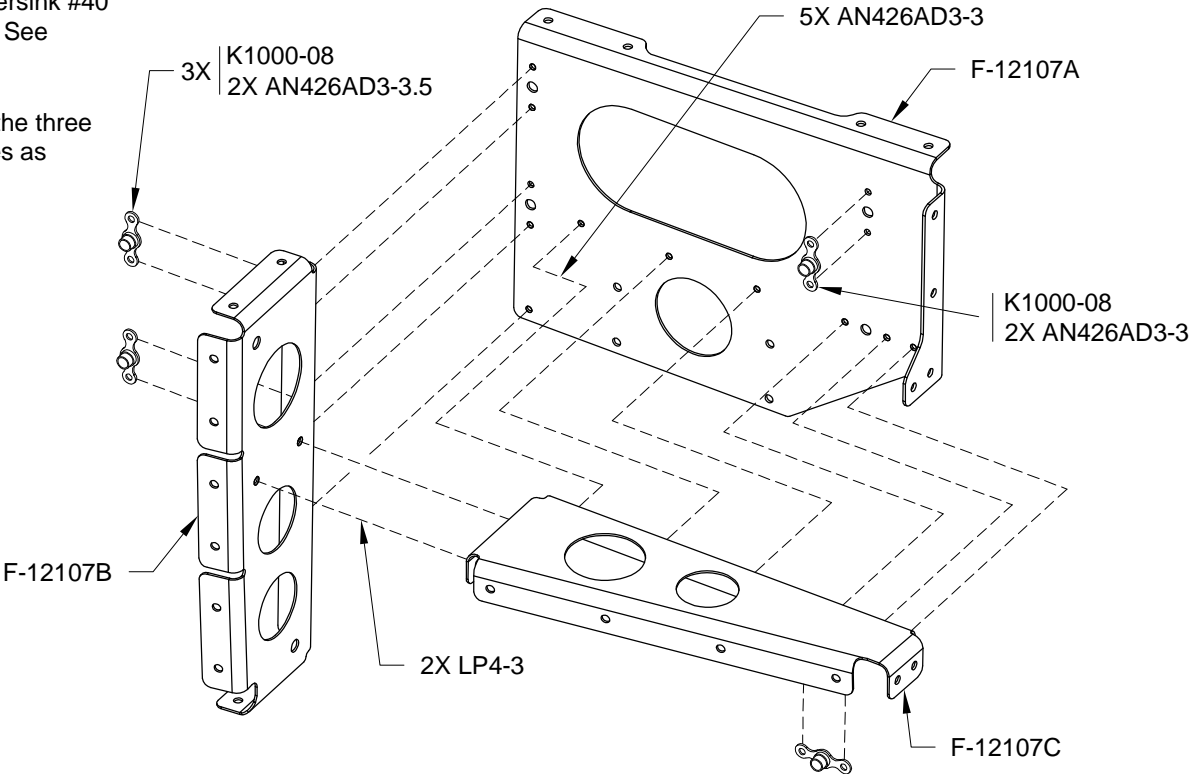

FIGURE 3: RIVETING ELT BRACKET ASSEMBLY
Step 7: Machine countersink #40 the holes in F-12107A. See Figure 3.
Step 8: Rivet together the three parts including nutplates as shown in Figure 3.